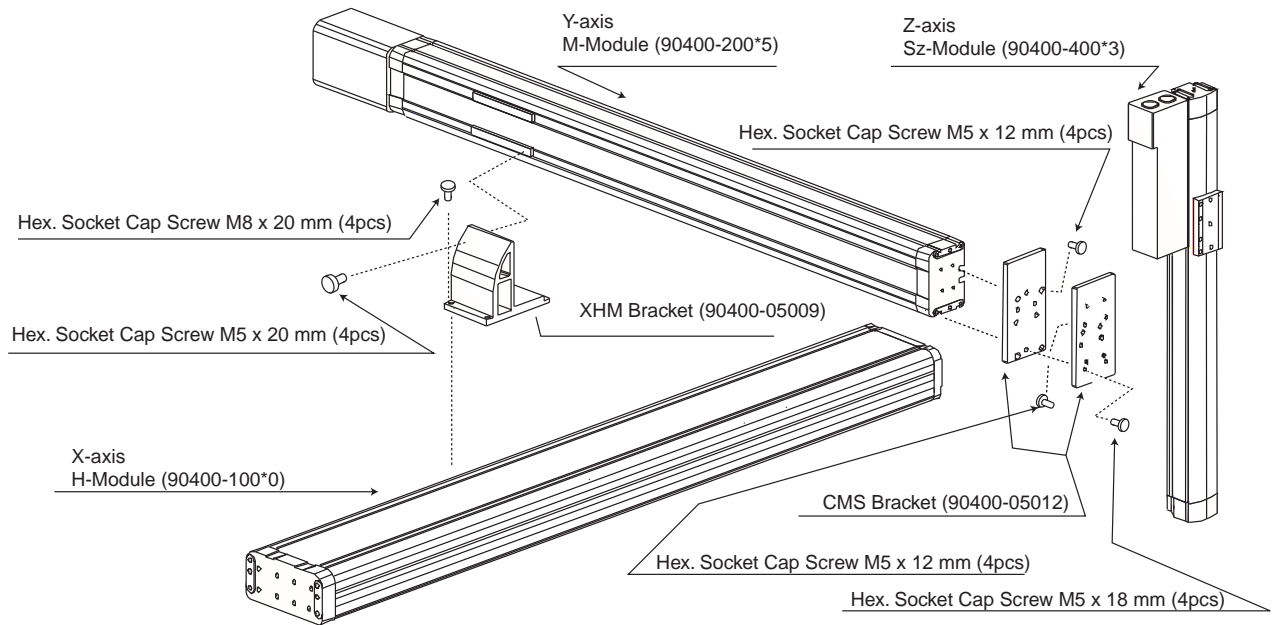

Figure 5-12. J-Type Mechanical Assembly with Z-axis Slider Stroke
5. Mate the Y-axis to combining bracket by aligning the slider pin holes on the Y-axis module to the pins on the side of the bracket. Carefully mate the pins and pin holes to avoid damaging the pins. Install the mounting bolts (see Figure 5-12, and refer to Table 3-3 for the mounting bolt specifications).
7. Mate the Z-axis and combining bracket by aligning the pin holes on the Y-axis module end plate to the pins on the side of the Z-axis bracket. Carefully mate the pins and pin holes to avoid damaging the pins. Install the mounting bolts (see Figure 5-12, and refer to Table 3-3 for the mounting bolt specifications).